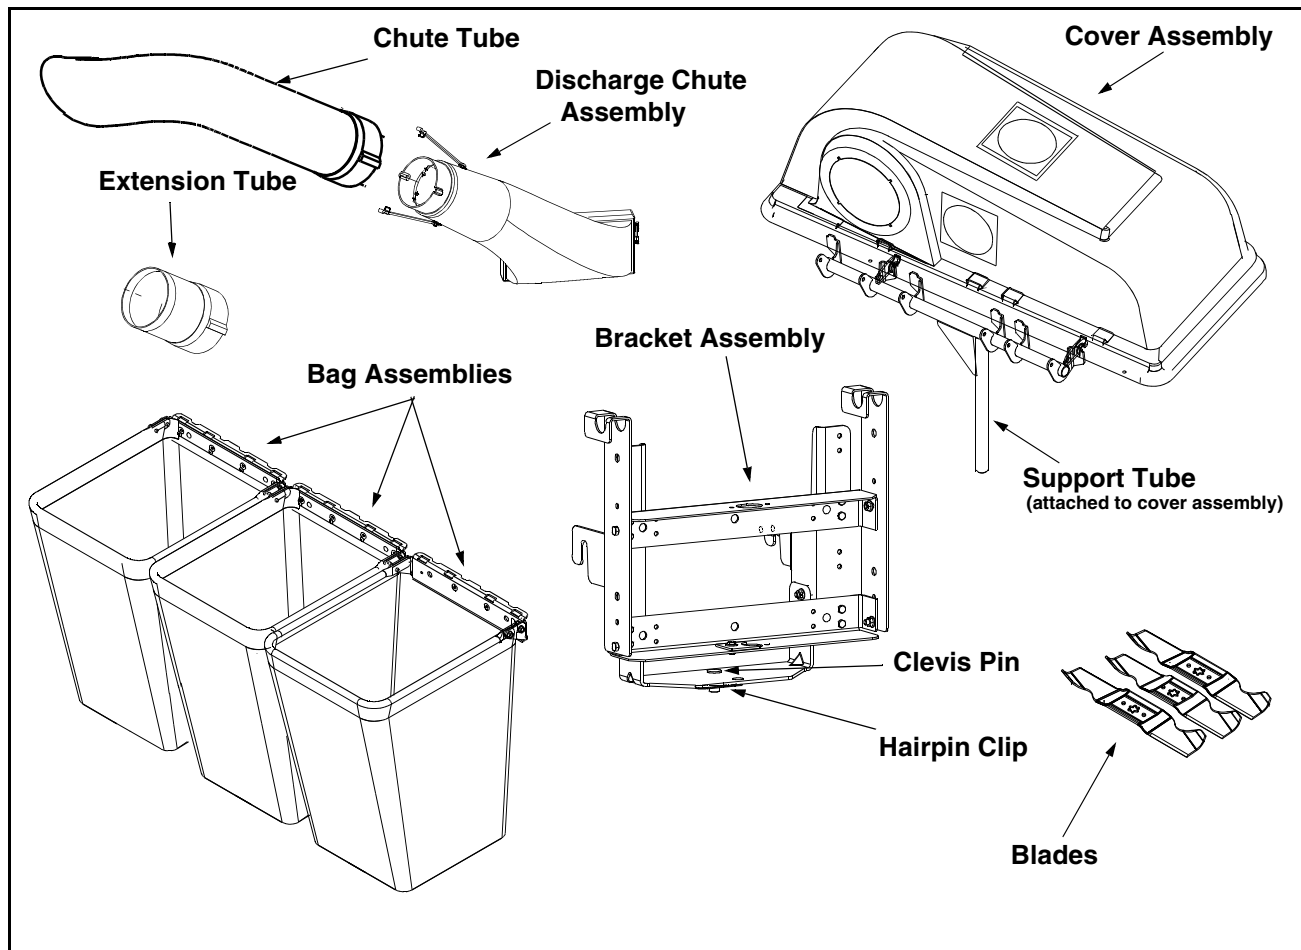
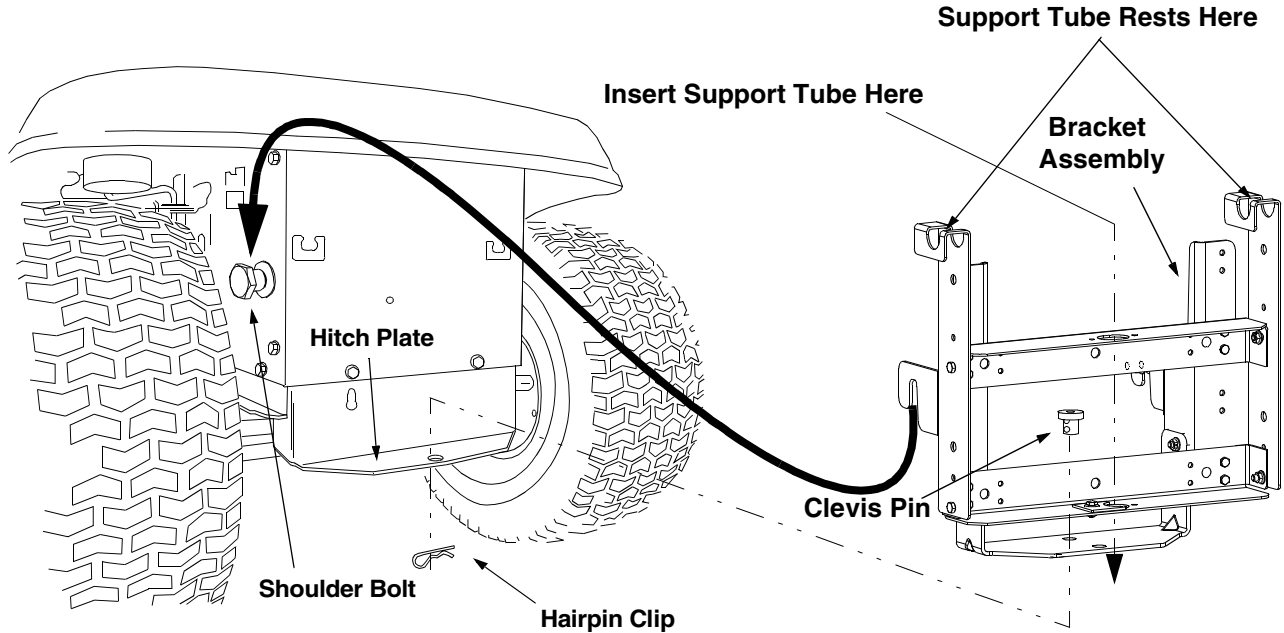

Figure 4
Figure 5
Before beginning installation, remove all parts from the carton to make sure everything is present. Carton contents are listed below and shown in Figure 4. Hardware part number are shown in parentheses.
2. Remove the hairpin clip and clevis pin from the hole in the rear of the bracket assembly. Refer to Figure 4
3. Position the hooked ends of the bracket assembly to the outside of the hitch plate and over the shoulder bolts. Refer to Figure 5.
4. Reinsert the clevis pin through the aligned holes in both the bracket assembly and the hitch plate. Affix with the hairpin clip. Refer to Figure 5.
1. Place the cover assembly's support tube (refer to Figure 4) in position on the rear of unit by sliding the support tube down through the holes in the center of the bracket assembly. Refer to Figure 5.
2. Place the cover assembly in position so that the support tube rests on both sides of the bracket assembly. Refer to Figure 5. Allow the plastic cover to rest in the "open" position on the back of the tractor's seat for ease of assembly.